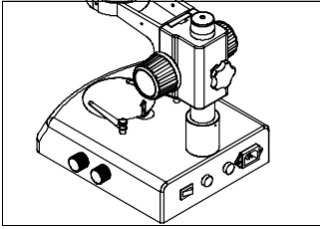

Fig.1
- 1) Press the glass stage on the sunken place then the other side of the glass stage will be lifted. (Fig.1)